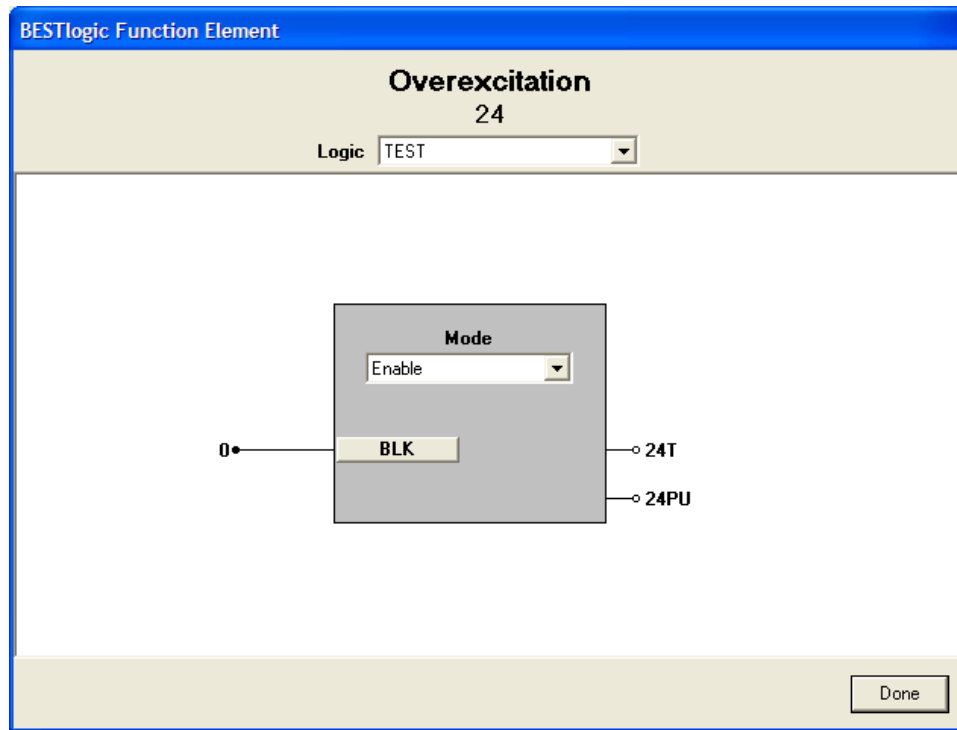

Figure 4-16. BESTlogic Function Element Screen, 24
BESTlogic settings are made from the *BESTlogic Function Element* screen in BESTCOMS. Figure 4-16 illustrates the BESTCOMS screen used to select BESTlogic settings for the Overexcitation (24) element. To open the *BESTlogic Function Element* screen for *Overexcitation (24)*, select *Voltage Protection* from the *Screens* pull-down menu and select the 24 tab. Then, select the *BESTlogic* button. Alternately, settings may be made using SL-24 ASCII command.